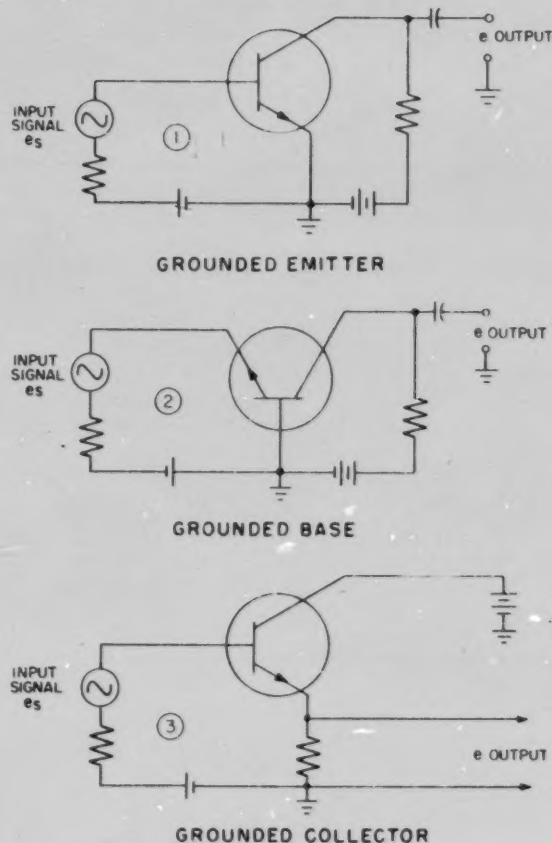

Figure 7-13. — Basic circuits.
Transistors are generally connected in one of three basic circuits (fig. 7-13). These circuits are the (1) grounded-emitter, (2) grounded-base, and (3) grounded-collector. The circuits are shown here merely to point out the three most common transistor circuit arrangements.